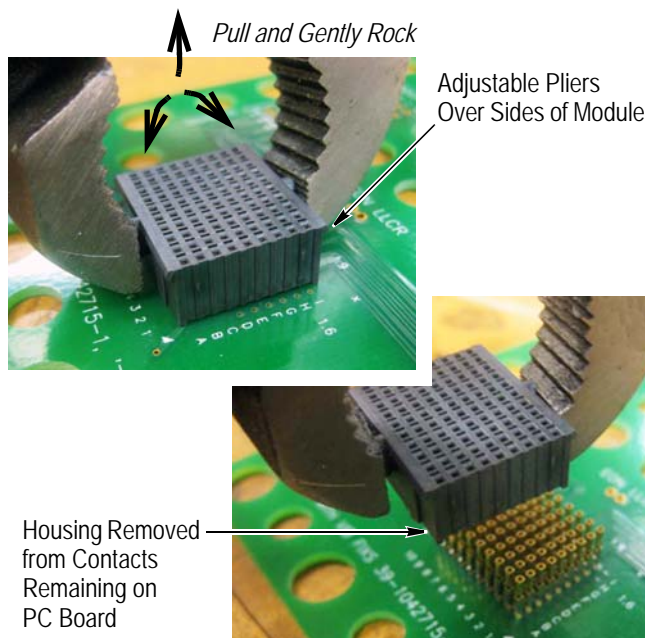

Figure 5
1. If space allows, use the adjustable pliers to grasp the sides of the housing, and gently rock the housing back and forth while pulling it away from the contacts remaining on the pc board. See Figure 5.